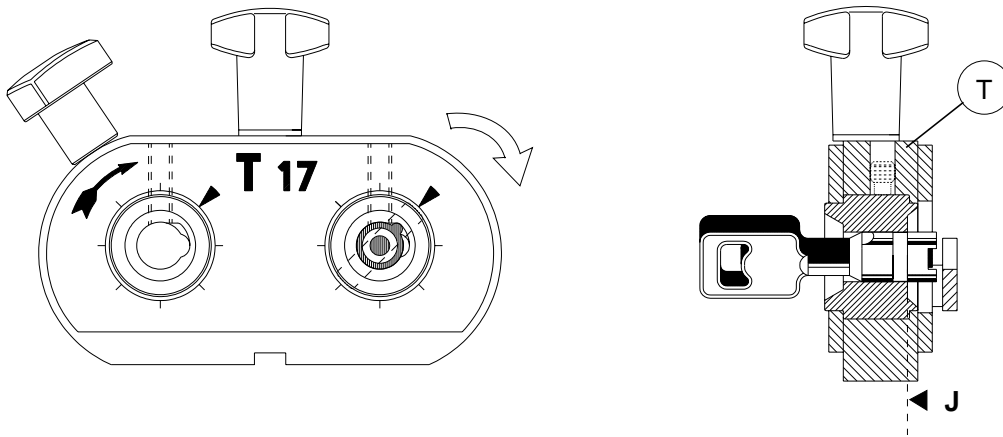

Fig. 21
- 2) turn the key 45° anticlockwise, pull towards the operator up to the stop (J) and secure with the grub screw (T) (fig. 21).
- 1) loosen the grub screw (T), keeping the key firmly against the tracer point (without excessive pressure).
- 2) turn the key clockwise slightly (fig. 21) until the tracer point can enter the cut completely.
- 3) tighten the grub screw (T).